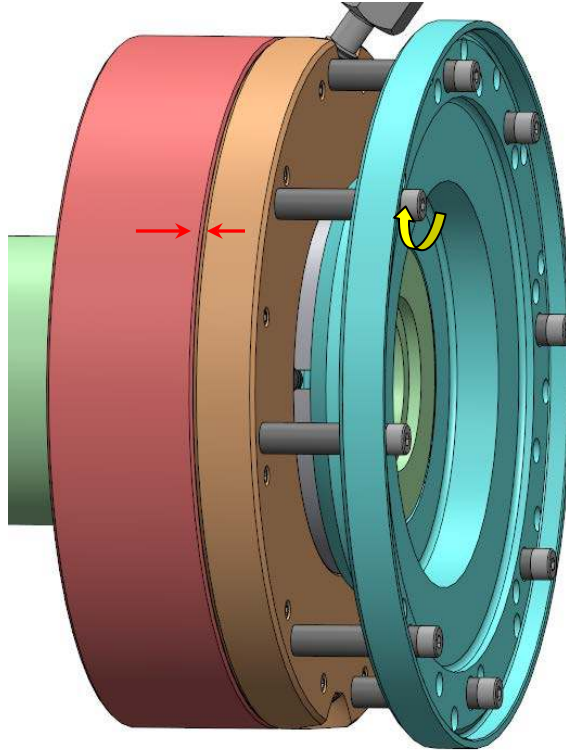

Figure 22 – Using Retraction Screws to Collapse HTC
6.7 If the hub does not slide easily on the shaft, the HTC may not be fully closed. Make sure the retention screws are completely loosened. Install the (8) retraction screws (see Figure 22). Tighten the retraction screws to 5 ft-lbs. The retraction screws will draw the clamp closed and loosen the hub on the shaft.